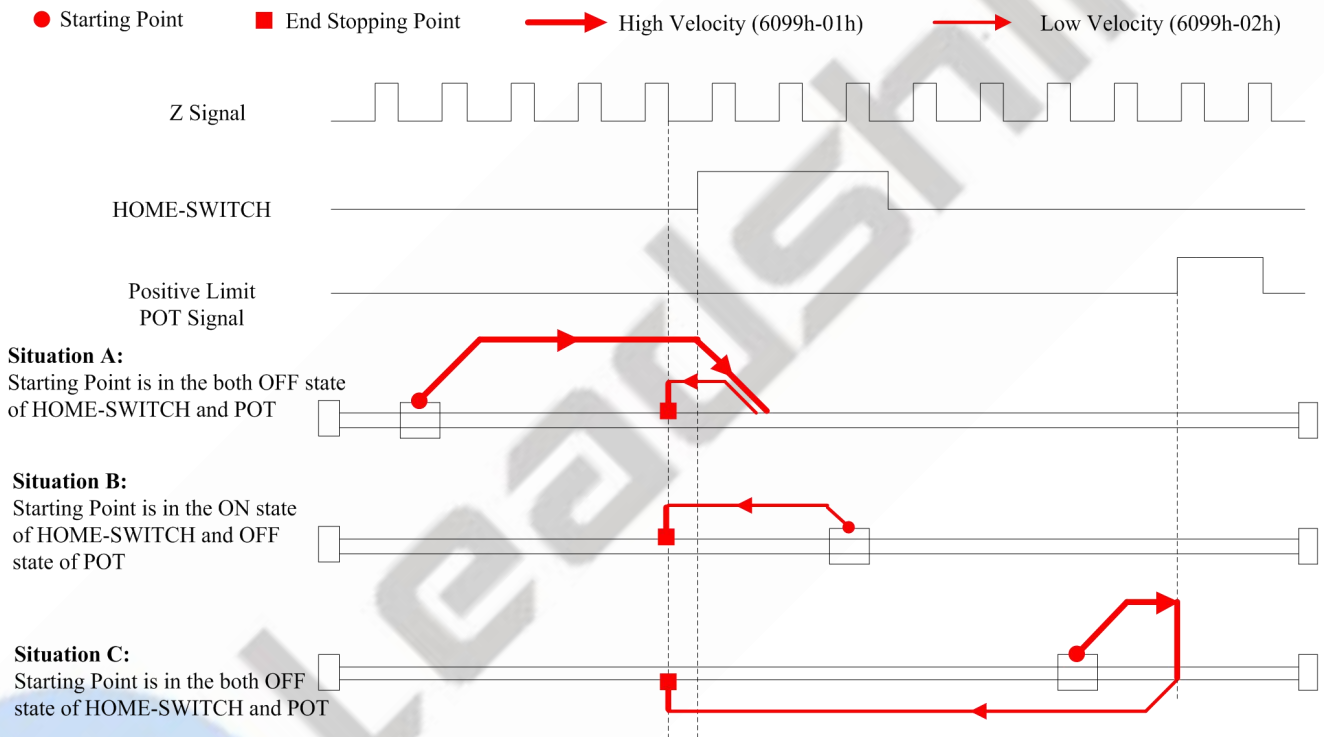

Figure 7-7 Method 7
- If the motor starting point is in the OFF state of HOME-SWITCH and Positive Limit like Situation A, it will move toward positive direction at Fast Homing Velocity (6099-01h) until the HOME-SWITCH goes ON to have a deceleration stop, then moves toward negative direction at Low Homing Velocity (6099-02h) and stops at the first effective Z signal after leaving the HOME-SWITCH, as shown in Figure 7-7.